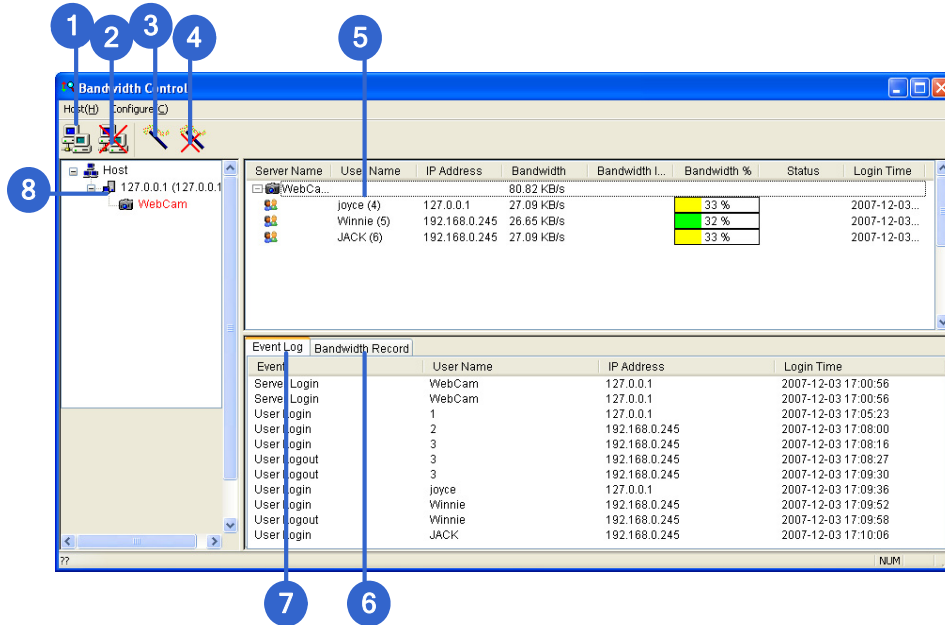

Figure 9-40
1. Click **Host** on the menu bar, and select **Connection**. Or you can click the **Connection** button (No. 1, Figure 9-40) on the toolbar. This dialog box appears.
6. To stop the connection, select the host and click the **Disconnect** button (No. 2, Figure 9-40). The host will be deleted from the host list.
7. Up to 5 users of the Bandwidth Control programs can connect to a single WebCam server for network traffic monitoring. However, only one user has the access to bandwidth settings. When this user clicks the **Give Up Control** button (No. 4, Figure 9-40), the user no longer controls the WebCam server. Whoever clicks the **Get Control** button (No. 3, Figure 9-40) first has access to bandwidth settings. For bandwidth settings, see *Controlling a WebCam Server* later in this chapter.